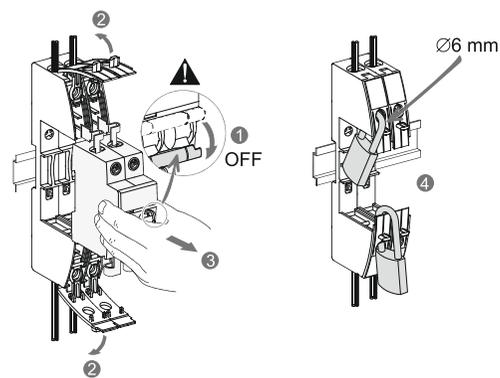

Рисунок 6 – Демонтаж автоматического выключателя / Figure 6 – Dismantling a circuit-breaker
Dismantling of the circuit-breaker and sealing of the module is carried out according to the algorithm shown in figure 6.
– it is necessary to turn the circuit-breaker to the "Off" position, item 1 in figure 6;
– then open the protective covers until they are fixed, item 2 in figure 6;
– then dismantle the circuit-breaker from the module, item 3 in figure 6;
– then the padlock is to be mounted. When mounting the padlock, the protective covers should be lowered, item 4 in figure 6 (the diameter of the hole for mounting the padlock is 6 mm).